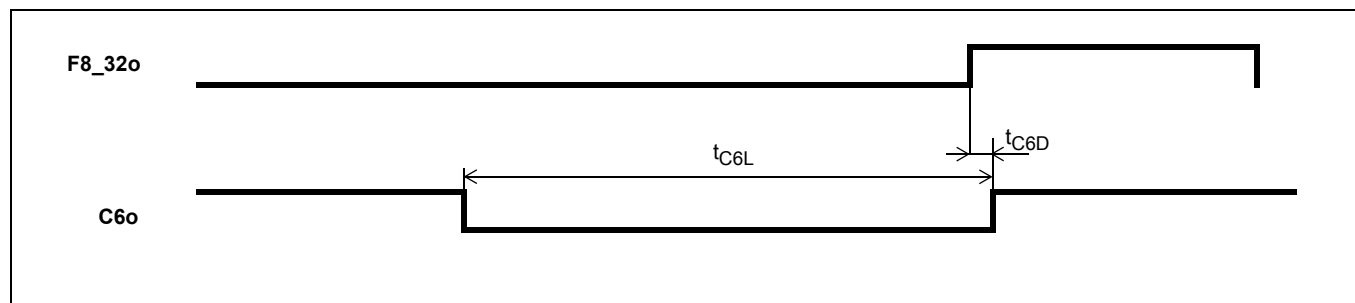

Figure 28 - DS2 Output Timing Referenced to F8/F32o
**AC Electrical Characteristics\* - DS2 output timing (see Figure 28).**